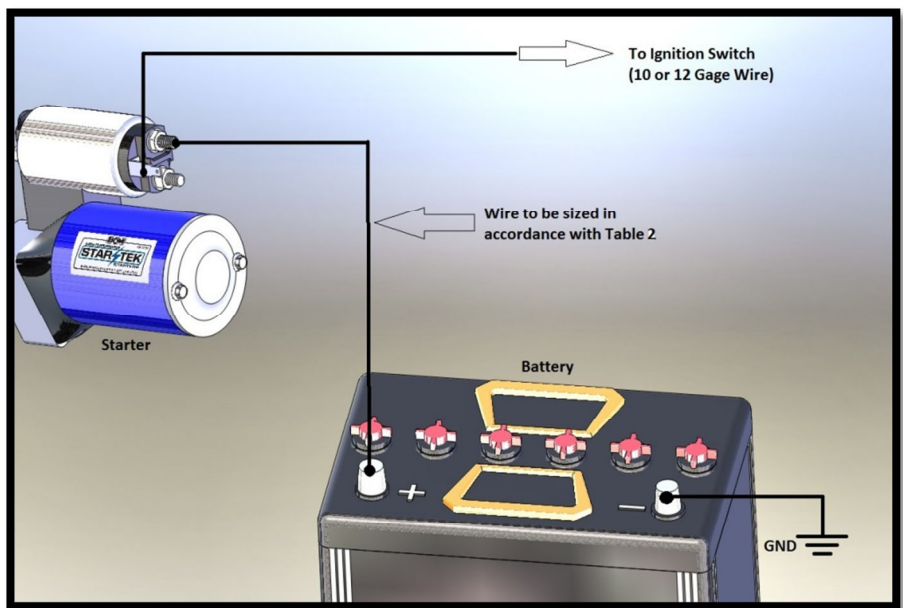
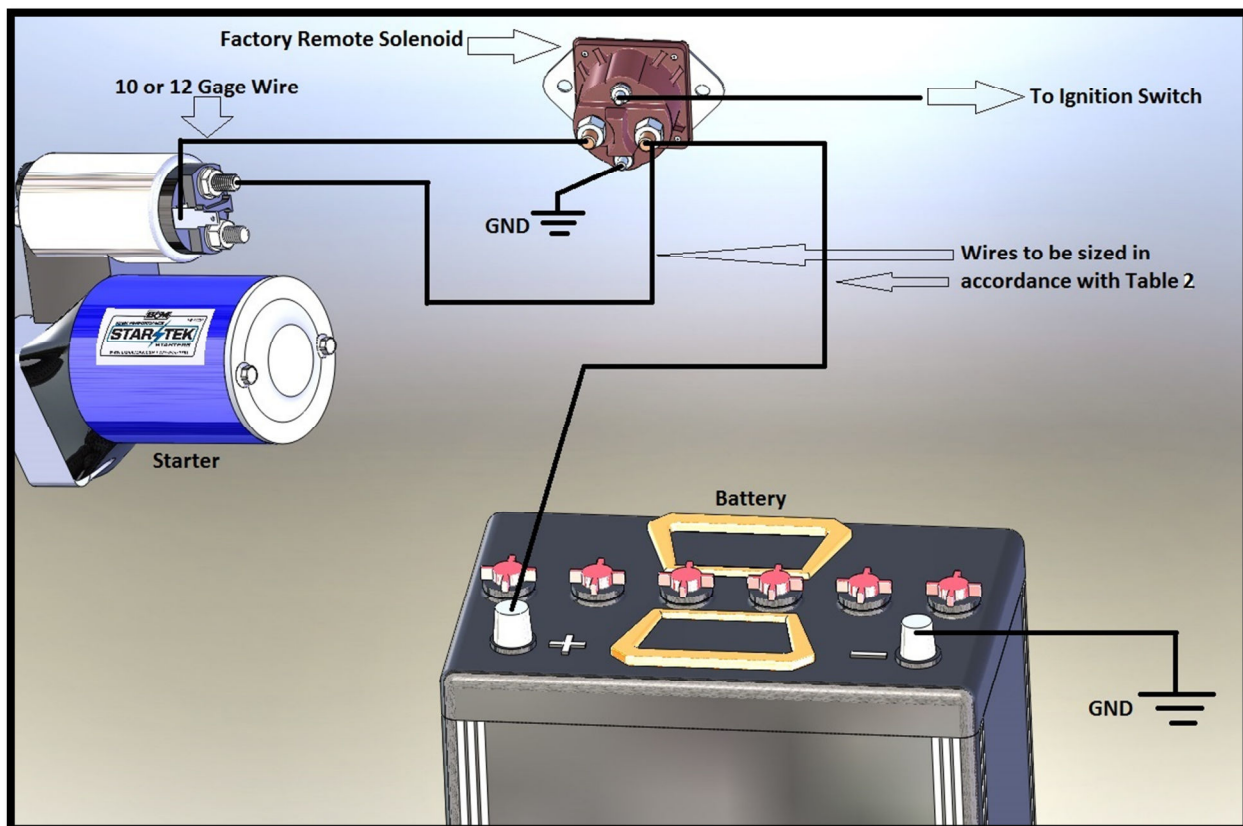

Figure 6: Starter Wiring Without Remote Solenoid
Figure 7: Starter Wiring With Remote Solenoid
Ga. wire as a minimum. Figure 6 shows wiring without a remote solenoid, Figure 7 shows wiring with a remote solenoid. While your B&M starter does not require a remote solenoid, it is generally easier to keep as much of the original wiring as possible. **Note:** If your original starter had a second terminal, or "R" terminal, this can generally be omitted. Please see
STEP 7. Connect the main cable to the starter. Please see Figures 6 and 7 for reference. Due to the high amperage required to turn the